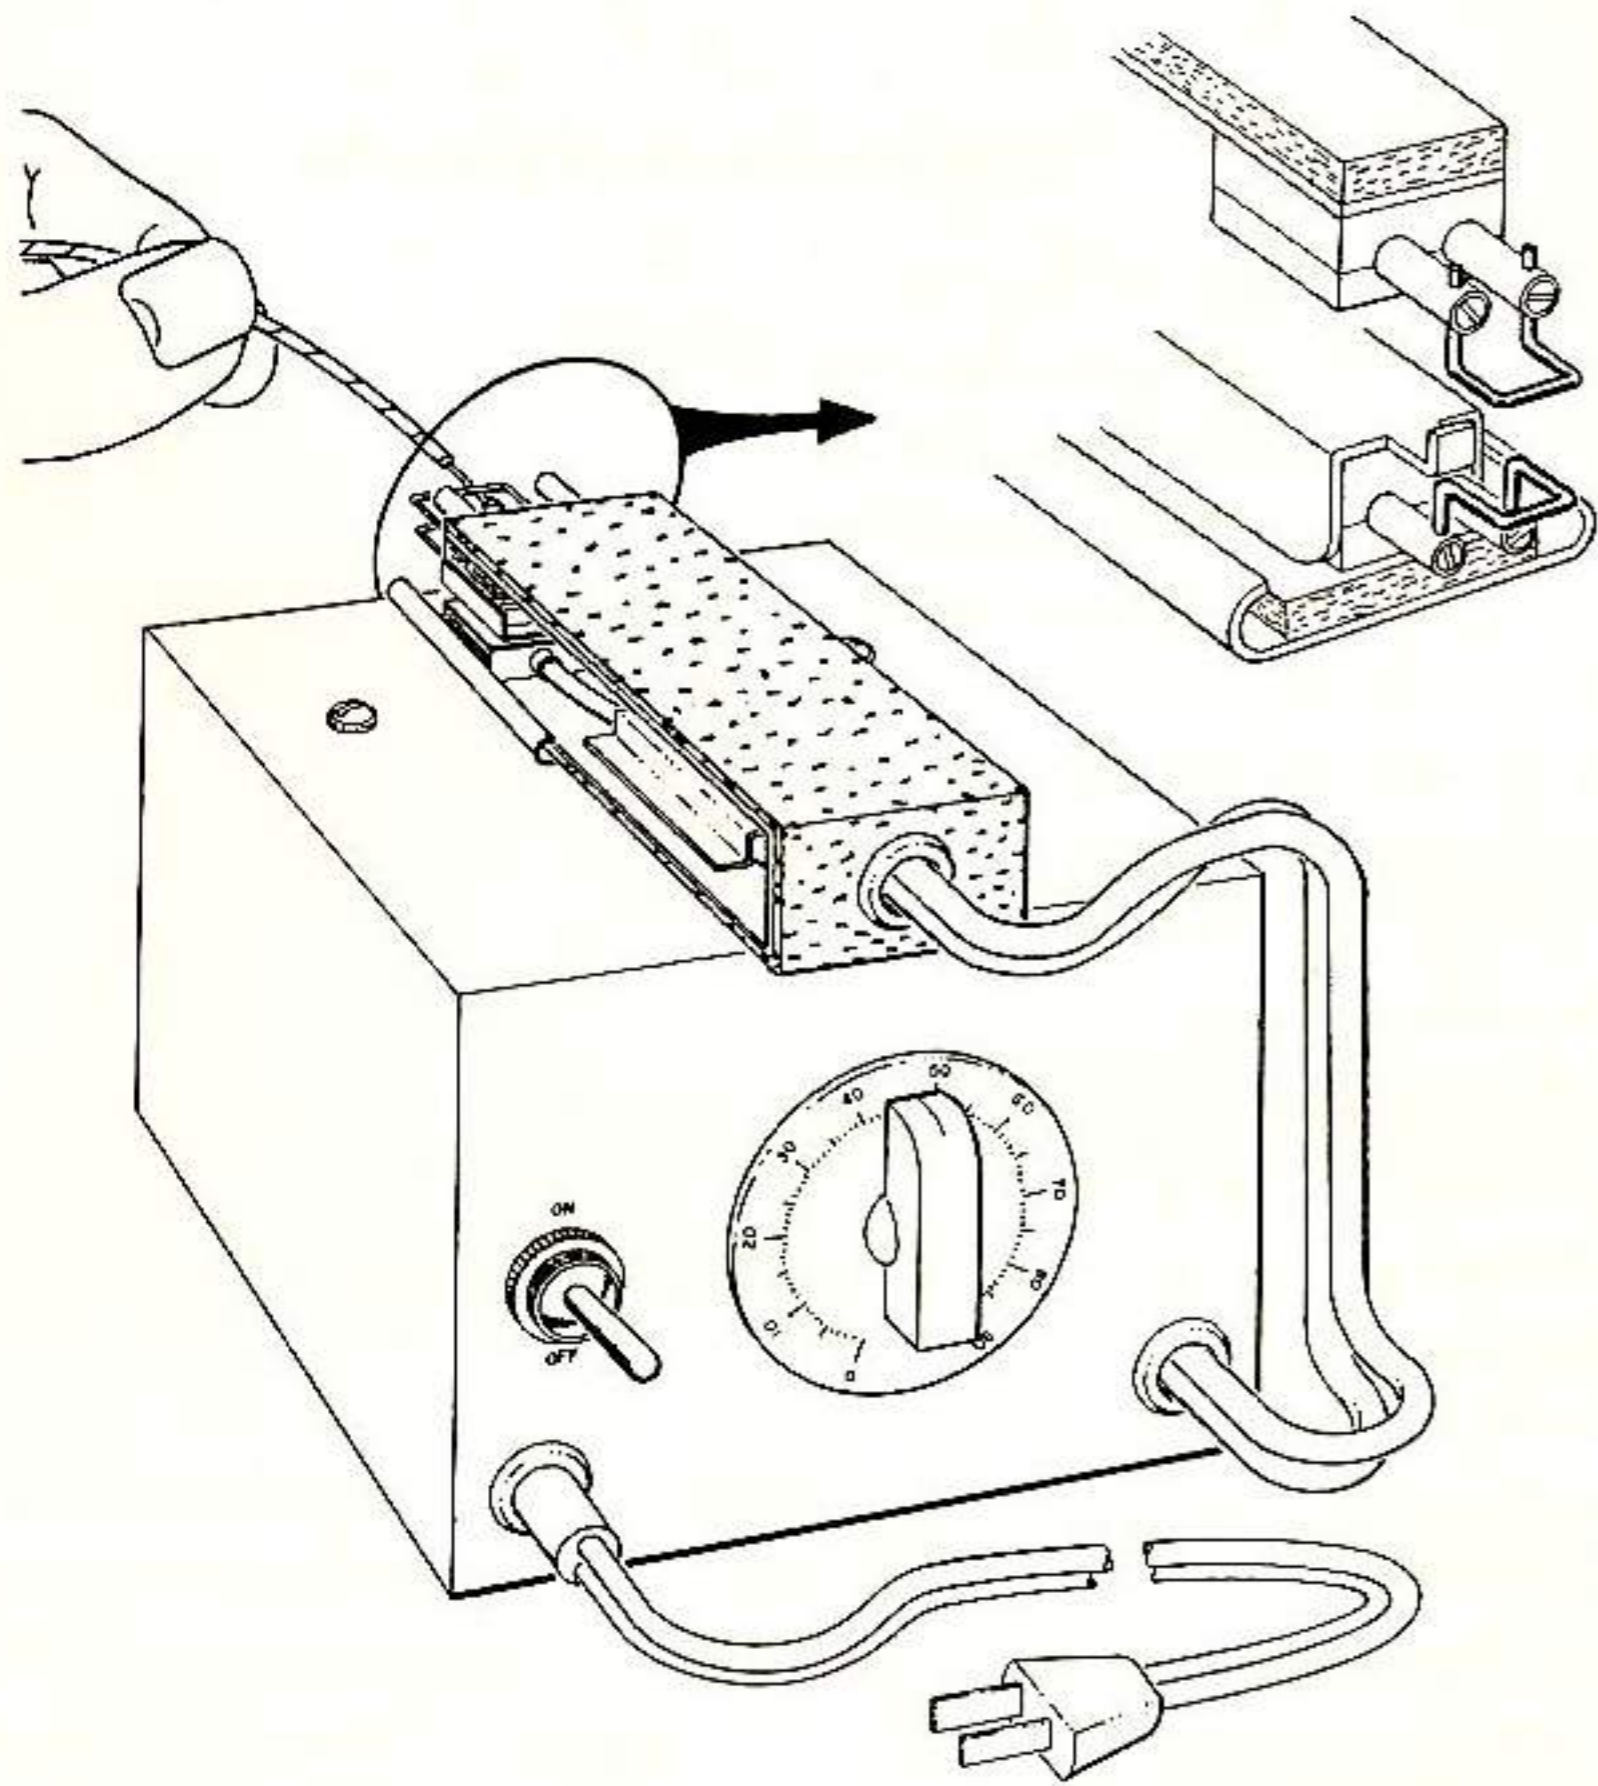

Figure 1. Thermal Stripper
a. Use thermal type stripper on wire sizes 22 awg and smaller. This type stripper should be used on all wire sizes wherever practicable. See figure 1.